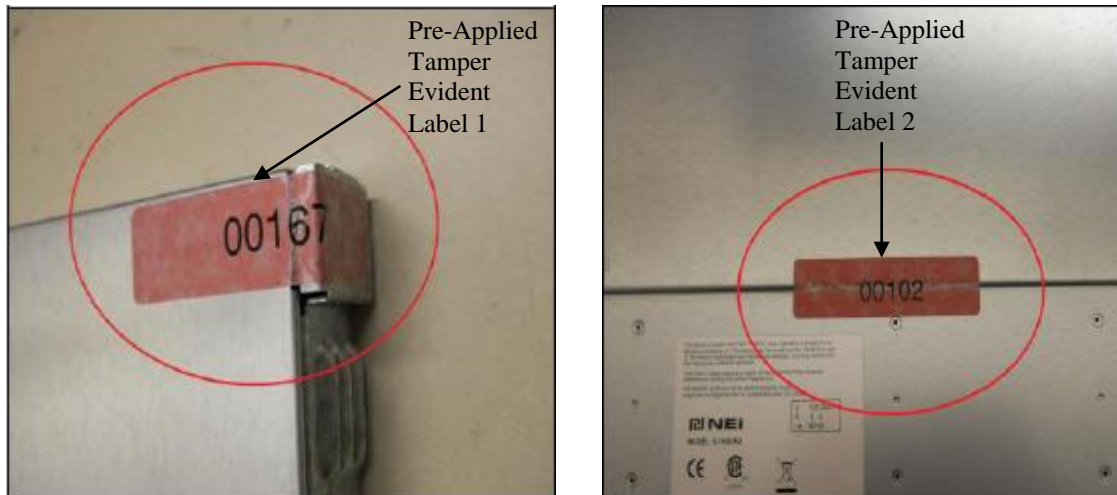

Figure 9 – Rear metallic bezel seal (Left) and Sealed top cover (Right)
1. Inspect all tamper-evident labels that shipped pre-applied to the Bomgar B300 chassis (see Figure 9), ensuring that each label shows no sign of tampering and is properly placed. Any attempt to reposition or remove the label will result in the voiding of that label and leave a residue on the surface. If you find a label that is questionable in appearance, contact Bomgar support toll-free at 1-877-826-6427 x2 or internationally at +01-601-519-0123 x2.